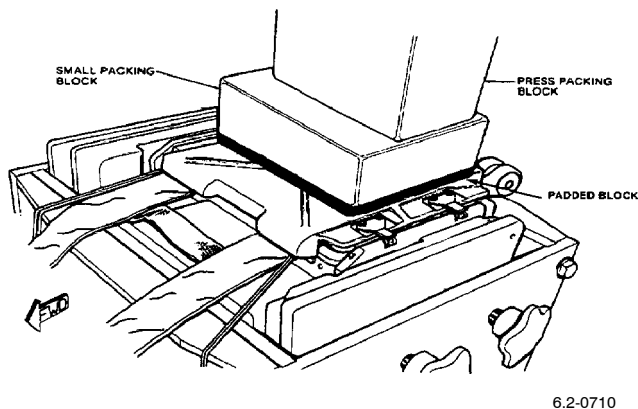

Figure 60. Closing Lid - Stage 1
c. Install rubber seal of the withdrawal line into the lid. Install lid on LH side of container, install lid into groove of container, as far as possible, press down and place padded block flat on lid. Place loose-small packing block (MBEU149526) on top of padded block. Align padded block and loose-small packing block (MBEU149526) aft and on right side (Figure 60).
d. Install block aft and on right side. Carefully raise press table using footpedal until blocks are just in contact. Make sure the protection cover panel cords are routed outboard of risers and that withdrawal line is located correctly in rear of container. Using the footpedal apply gentle pressure to lid (Figure 60).